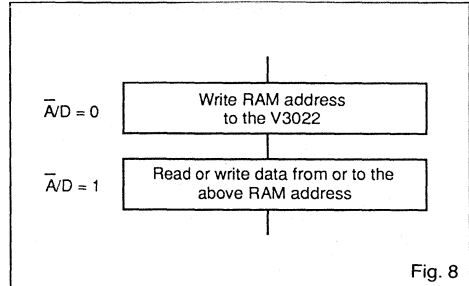

Fig. 8
Data transfer is in 8 bit parallel form. All time data is in packed BCD format with tens data on lines AD 7 - 4 and units on lines AD 3 - 0. To access information within the RAM (see Fig. 7) first write the RAM address, then read or write from or to this location. Fig. 8 shows the two steps needed.
The communication sequence shown in Fig. 8 is re-entrant. When the address is written to the V 3022 (ie. first step of the communication sequence) it is stored in an internal address latch. Software can read the internal address latch at any time by holding the  $\bar{A}/D$  line low during a read from the V 3022. So, for example, an interrupt routine can read the address latch and push it onto a stack, popping it when finished to restore the V 3022. N.B. Alarm and timer interrupt routines can reprogram the alarm and timer without it being necessary to read or reprogram the clock.
**Note:** Commands are only valid as commands when the  $\bar{A}/D$  line is low. Writing F2 hex with the  $\bar{A}/D$  line high, as in the last box of Fig. 8, serves only to activate the V 3022 write pin which determines the direction of transfer.